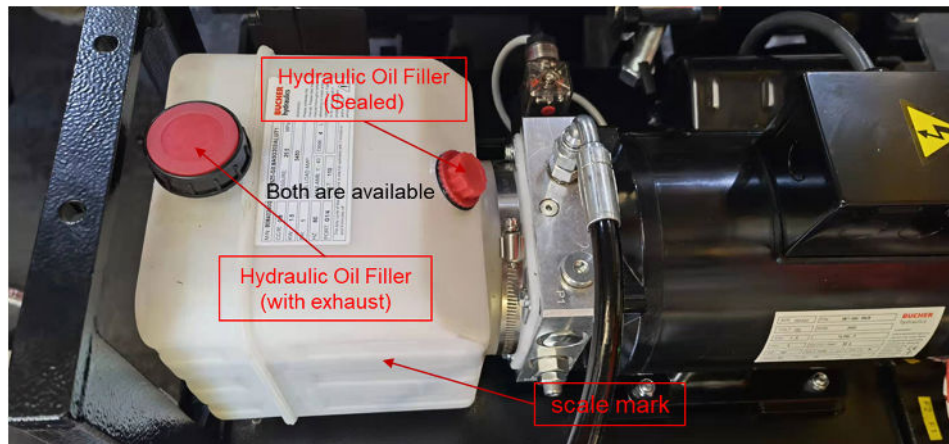

Fig.7.1.6 Console
c) Open the cover of the console and add about 3L ISO 32 Hydraulic Oil into the oil tank. Then reinstall the cover (Fig.7.1.6).